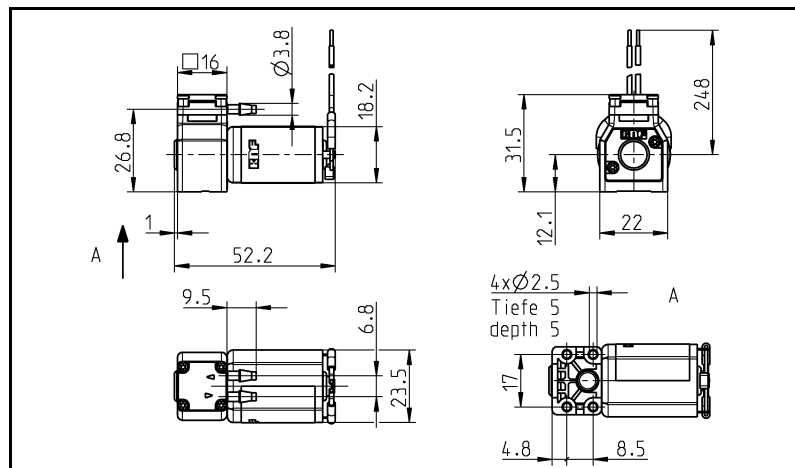
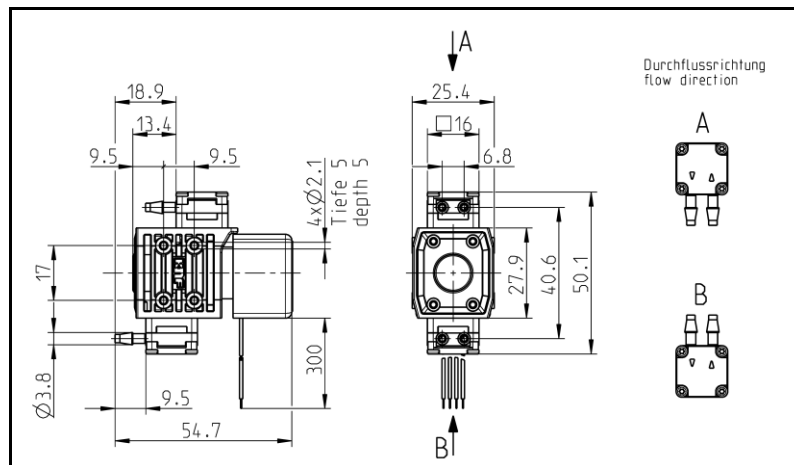

Fig. 4: Mounting dimensions NF 5 DC-M
Fig. 6: Mounting dimensions NFB 5 DCB-4
- ➔ Mounting dimensions (see Fig. 4 to Fig. 6)